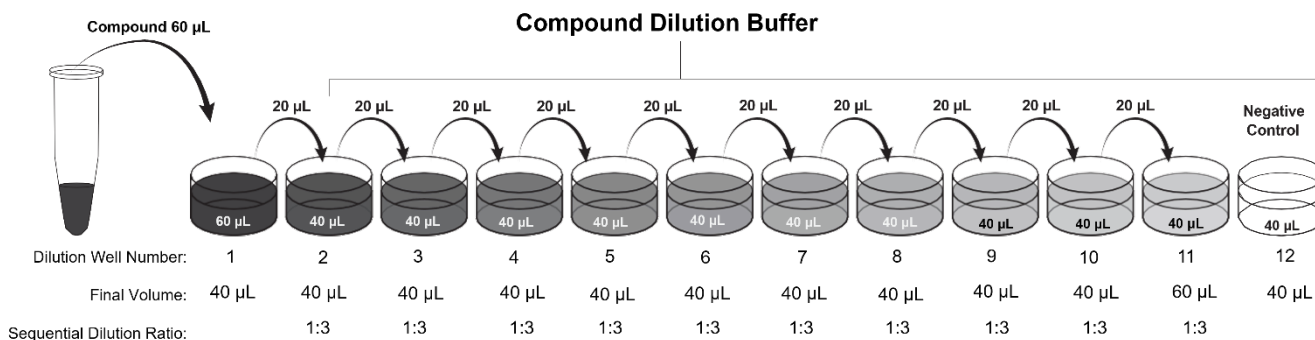

Figure 8. Compound serial dilutions - Antagonist
2. Prepare an 11-point series of 3-fold antagonist (compound) serial dilutions in Compound Dilution Buffer, in a separate dilution plate or vials as shown in the workflow below (Figure 8).
- d. Add 60 μ L of the highest concentration of antagonist compound to well number 1 (Figure 8).